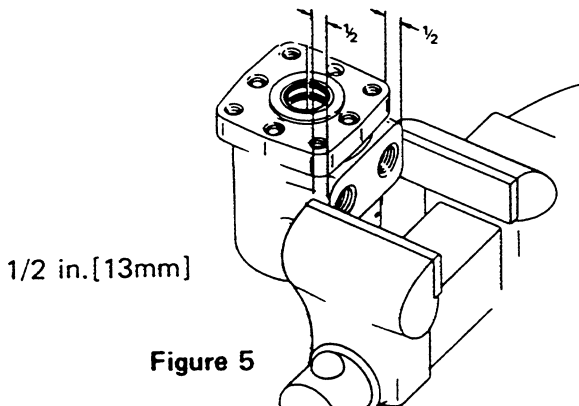

Figure 5
- 13 Reposition motor in vise. Clamp across ports as shown in Figure 5. Do not clamp on side of housing. Excessive clamping pressure on side of housing causes distortion.